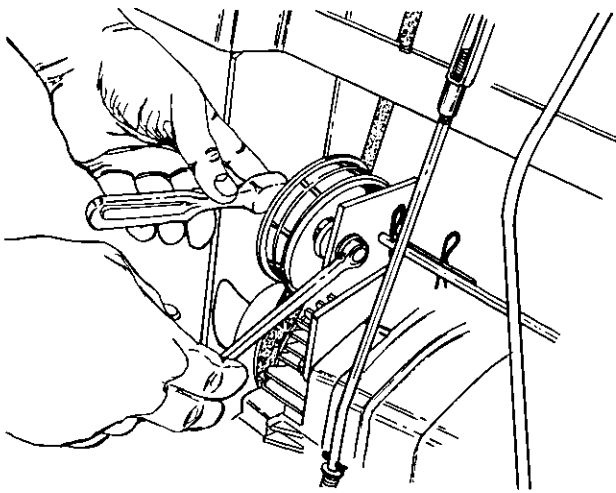

FIGURE 26.
4. Remove the idler pulley at hydrostatic pump by removing 3/8" hex bolt, hex nut, Belleville washer and flat washer. See figure 26.